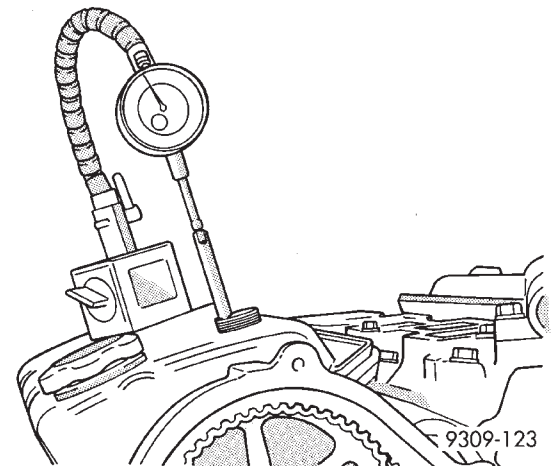

Fig. 50 Dial Indicator Locating Piston at TDC
(2) Install a dial indicator in number 1 cylinder to check TDC of the piston (Fig. 50). Rotate the crankshaft until the piston is at exactly TDC. This is important for good engine performance.
(9) With number 1 piston at TDC (Fig. 50), hold the camshaft sprocket hex with a 36 mm (1 7/16 in.) wrench and tighten the camshaft bolts to 102 N·m (75 ft. lbs.) plus a 90 degree turn for the Right side and 115 N·m (85 ft. lbs.) plus a 90 degree turn for the Left side.